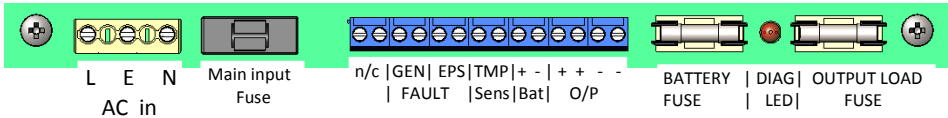

Figure 3 – Terminal labels
- 13) Connect the battery temperature sensor (two white wires) to the PCB terminals TMP Sens. See Figure 3.
- 14) If the batteries are housed remotely and the standard battery leads are not long enough, use the extended battery lead assembly, part No BAT-LD-T-24-300. Ensure temperature sensor and battery connections are made according to figure 3.